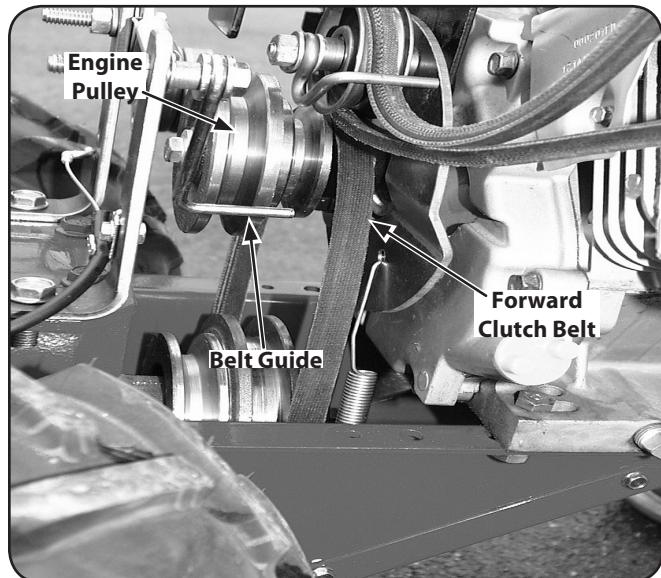
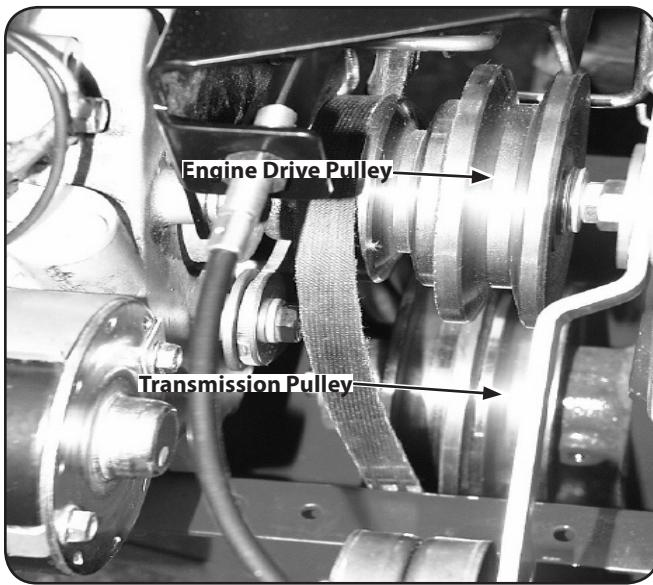

Figure 7-3
Figure 7-4
5. Slide the belt off the engine pulley, away from the engine, out from under the belt guide and completely off the pulley. See Figure 7-3.
6. Slip the belt off the front of the transmission pulley. See Figure 7-4.
9. Insert the bottom half of the belt into the smaller, rear-most groove of the transmission pulley. See Figure 7-4. Now slip the top half of the belt under the belt guide (See Figure 7-3) and onto the large groove of the engine drive pulley. See Figure 7-4.